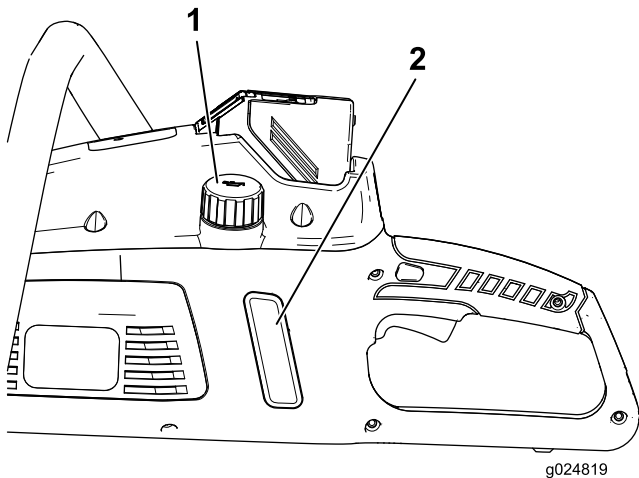

Figure 25
2. Check the window. If the oil cannot be seen in the window, oil needs to be added to the chain saw (Figure 25).
3. Clean the area around the oil cap (Figure 25).
4. Remove the cap and pour oil into the chain saw until the oil fills the window (Figure 25).